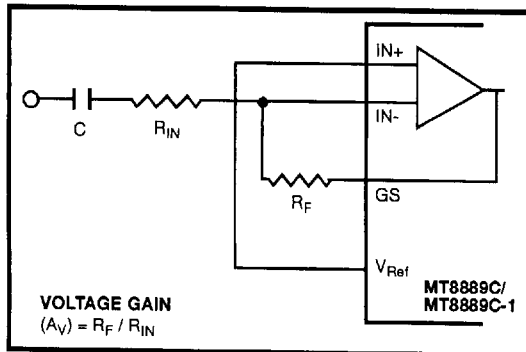

Figure 3 - Single-Ended Input Configuration
The input arrangement of the MT8889C/MT8889C-1 provides a differential-input operational amplifier as well as a bias source ( $V_{Ref}$ ), which is used to bias the inputs at  $V_{DD}/2$ . Provision is made for connection of a feedback resistor to the op-amp output (GS) for gain adjustment. In a single-ended configuration, the input pins are connected as shown in Figure 3.